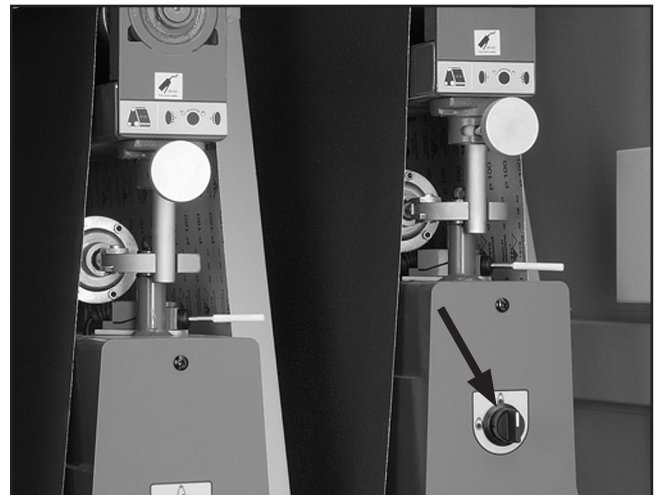

Figure 33. Belt tension knob.
3. With the sanding belt tensioned (**Figure 33**), move the sanding rollers by hand and manually raise the table until you hear the sandpaper just contact the surface of the wood. DO NOT continue to raise the table beyond that point.